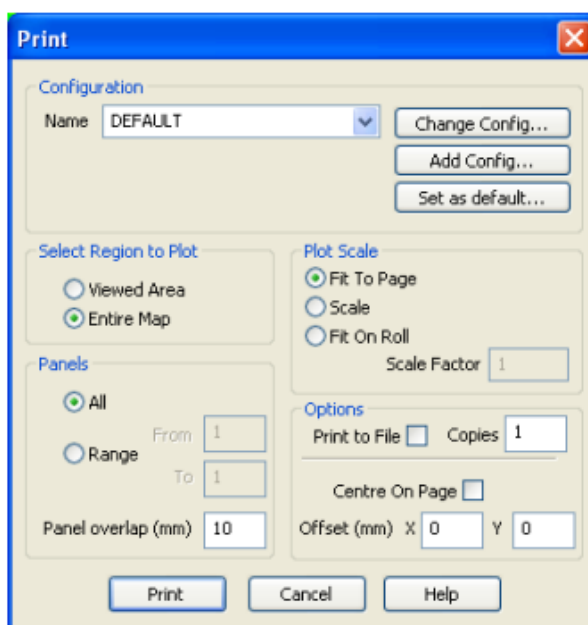

Figure 1.108 – Print Map Panel
2. On the *File* menu, click *Print*. The system displays the *Print* dialog box, fig. 1.108.